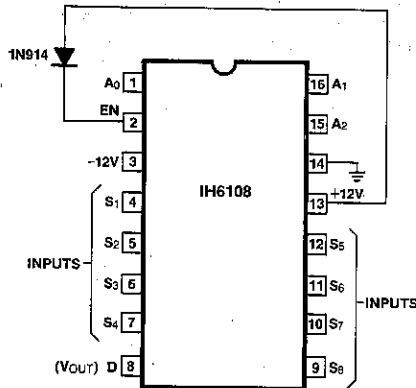

Figure 6. IH6108 Connection Diagram for less than $\pm 15V$ Supply Operation.
Caution must be taken to ensure that the enable (EN) voltage is at least 0.7V below V^+ at all times. If this is not done the Address input strobing levels will not function properly. This may be achieved quite simply by connecting EN (pin 2) to V^+ (pin 13) via a silicon diode as shown in Figure 6. When using this type of configuration, a further requirement must be met: the strobe levels at A0 and A1 must be within 2.5V of the EN
voltage in order to define a binary "1" state. For the case shown in Figure 6 the EN voltage is 11.3V which means that logic high at A0 and A1 is $\approx 8.8V$ (logic low continues to be $\approx 0.8V$). In this configuration the IH6108 cannot be driven by TTL (+5V) or CMOS (+5V) logic. It can be driven by TTL open collector logic or CMOS logic with +12V supplies.